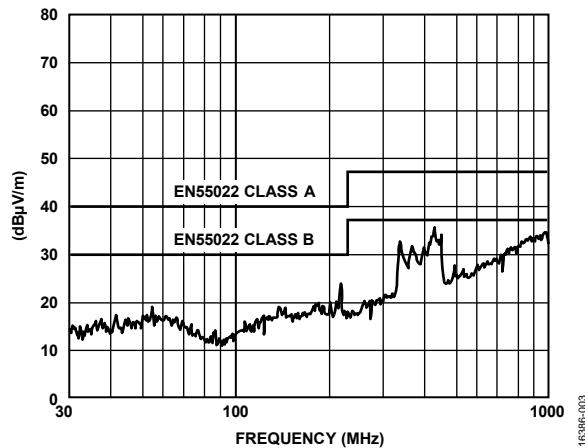
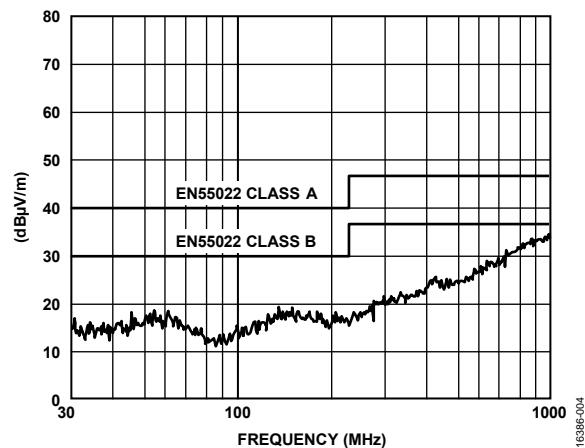

Figure 3. Horizontal Scan from 30 MHz to 1 GHz with 100 mA, 5 V Output
Figure 4. Vertical Scan from 30 MHz to 1 GHz with 100 mA, 5 V Output
The EVAL-ADUM5020EBZ evaluation board is configured and tested with 5.0 V power supplied to the V_{DDP} pin from the ADP7104ACPZ regulator output. The ADP7104ACPZ regulator input is supplied from a standard 9 V battery. V_{ISO} can be loaded with six 300 Ω , 0805 size, SMD resistors in parallel for a total load of 50 Ω or 100mA load at 5 V. Measurements carried out according to the CISPR22/EN55022 Class B standard in a semi anechoic chamber at 10 m from 30 MHz to 1 GHz are shown in Figure 3 and Figure 4. Figure 3 shows the results of the peak horizontal scan (the worst case), and Figure 4 shows the results of the peak vertical scan. Table 3 shows the tabulated quasi peak (QP) results. These results show that the ADuM5020 emissions at -4.0 dB margin are well below CISPR22/EN55022 Class B limits when at 5 V output and 100 mA load on a 2-layer PCB with the use of ferrites.